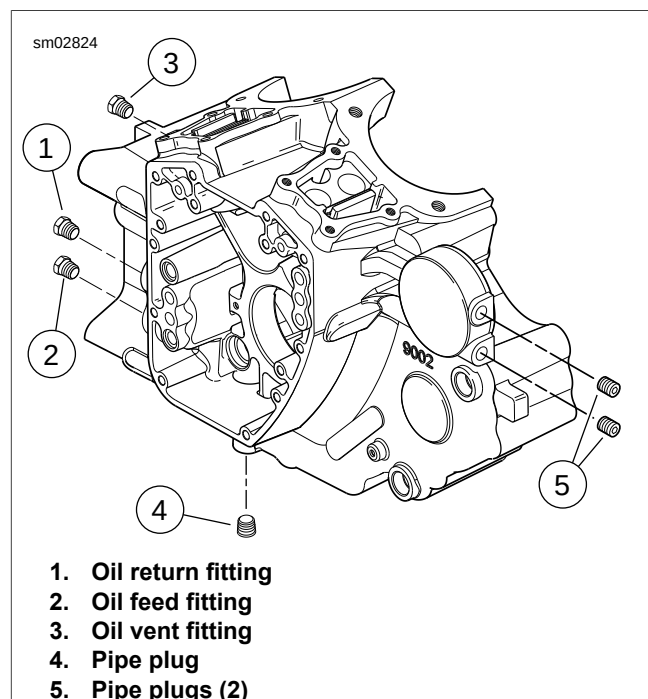

Figure 3-146. Oil Fittings and Pipe Plugs
1. See Figure 3-146. Remove parts.
3. See Figure 3-146. Install parts.